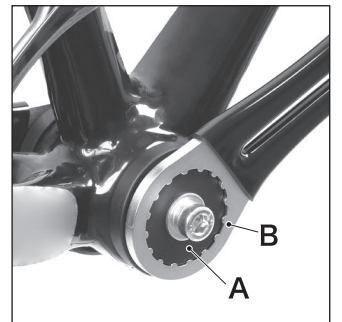

Fig. 3
- ④ 工具Aのセッティングが完了したら、左右両側に工具BのS側を嵌めてください。—図3
- ④ Once set-up of the tool A is ready, set the S side of TL-PWS BB wrench to each of the left and right cups. —Fig. 3
*Fig. 3 is an example of working methods.